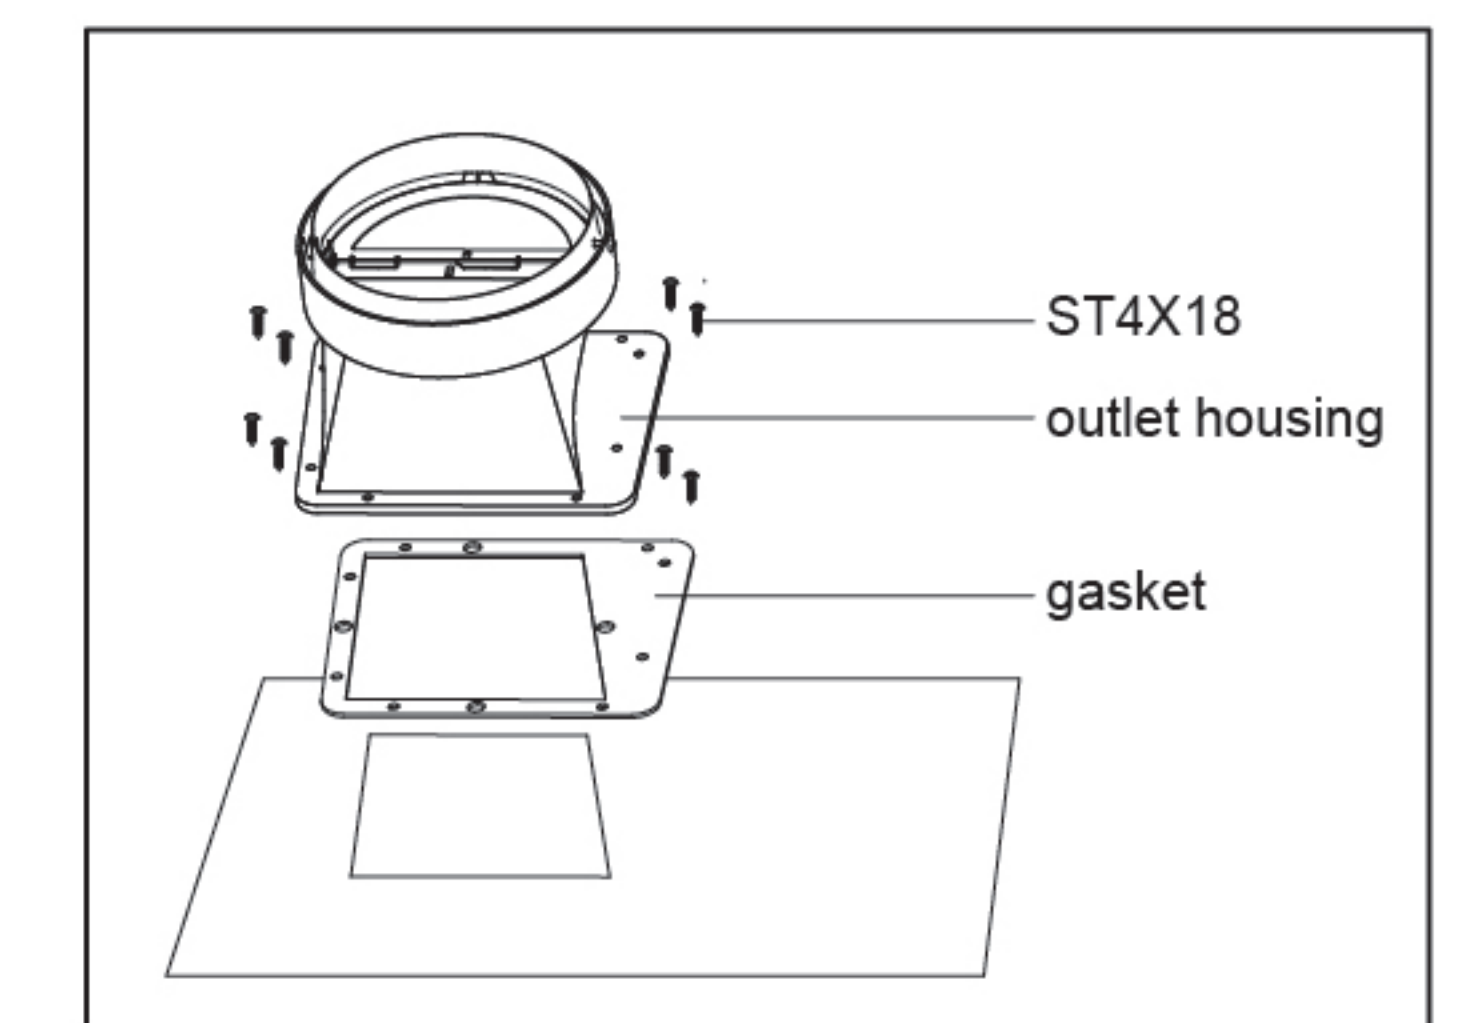

fig9
- Place the outlet housing and the sealing rings at the air outlet of the main body, and use 8 screws ( $\text{M}4 \times 18\text{mm}$ ) to fix the outlet housing and the sealing rings. (fig9)